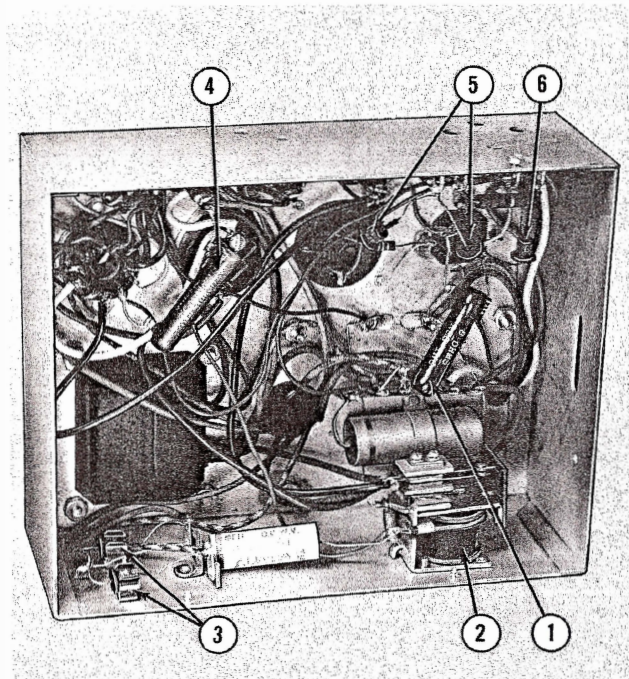

Fig. 97. POWER SUPPLY, STEREO, UNDER SIDE
3) provides partial current to the filaments. When a selection is made the transformer (Item 3) will be energized by the closing of the over-ride relay contacts quickly bringing the tubes to playing temperature by the time the record is in playing position. The transformer (Item 3) also supplies, in conjunction with the three Silicon Diode Rectifiers (Fig. 97, Items 5 and 6), the high voltage for the amplifier tubes.